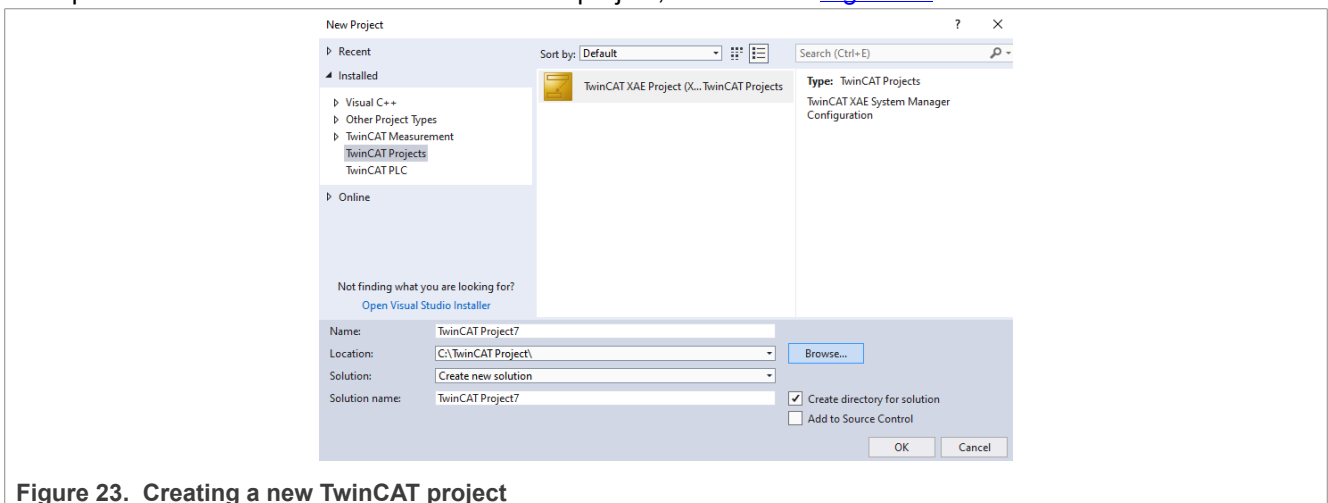

Figure 23. Creating a new TwinCAT project
1. Open TwinCAT3 and create a new TwinCAT project, as shown in Figure 23.